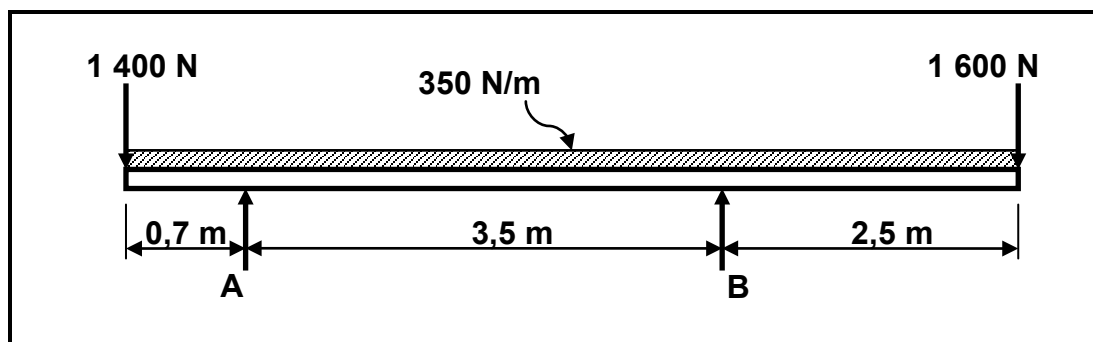

FIGURE 7.3
- 7.4 FIGURE 7.3 shows a uniform beam that is supported by two vertical supports, **A** and **B**. Two vertical point loads, 1 400 N and 1 600 N, are exerted onto the beam, as well as a uniformly distributed force of 350 N/m over the total length of the beam. Determine, by means of calculations, the magnitude of the reactions in supports **A** and **B**.